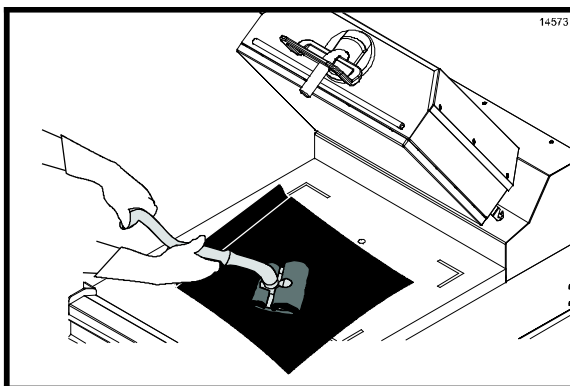

Figure 36
27. Place the upper platen release sheet flat on the lower grill surface. Gently clean both sides of the sheet with the Kay Grill Cleaning Pad Holder. (See Figure 36.)